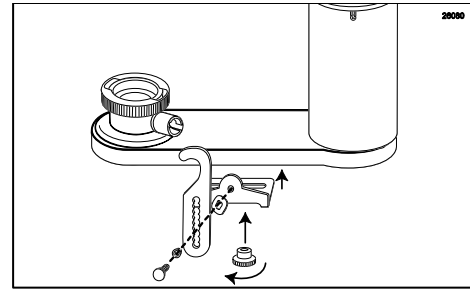

Figure 133
2. Assemble the Suspension Bracket and install it onto the Gear Box on the side closest to the operator. Ensure all parts are assembled in the proper position. (See Figure 133.)